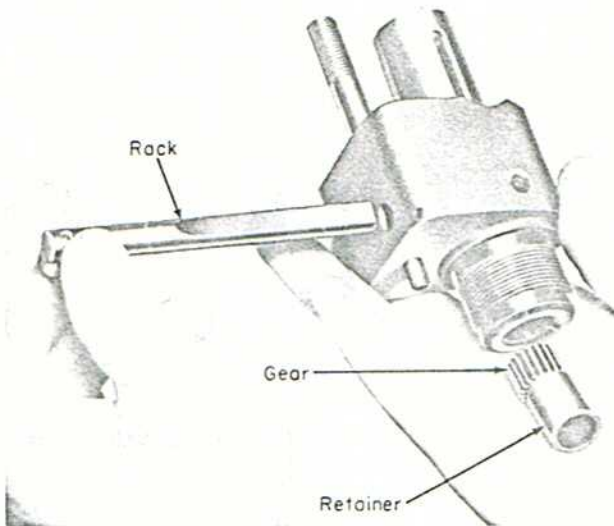

Fig. 8 - Removing Injector Rack, Gear And Retainer
9. Release the injector body from the vise and holding free hand at bottom, invert the body to remove the gear retainer and gear. After the gear is removed the injector rack can be withdrawn from the body, Fig. 8.